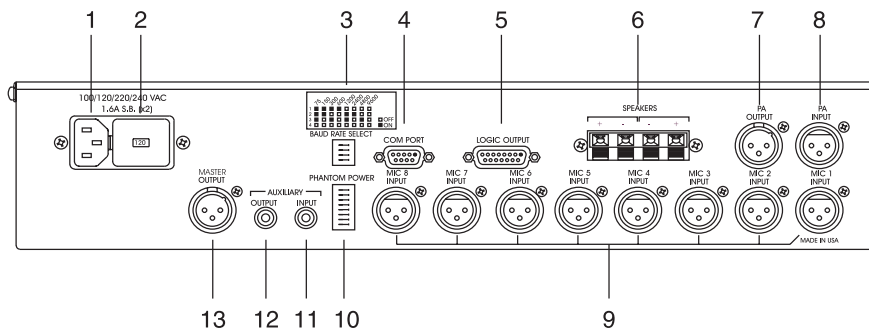

Figure 3a. MPAII back-panel connectors
11. *Auxiliary Input Connector.* This is an additional non-gated input (See Figure 3a, below.) to the mixer. Connect this input to the Auxiliary output of another MPAII for expansion, or to input audio from a tape player or other audio source. This audio is combined with the audio from the eight microphones.